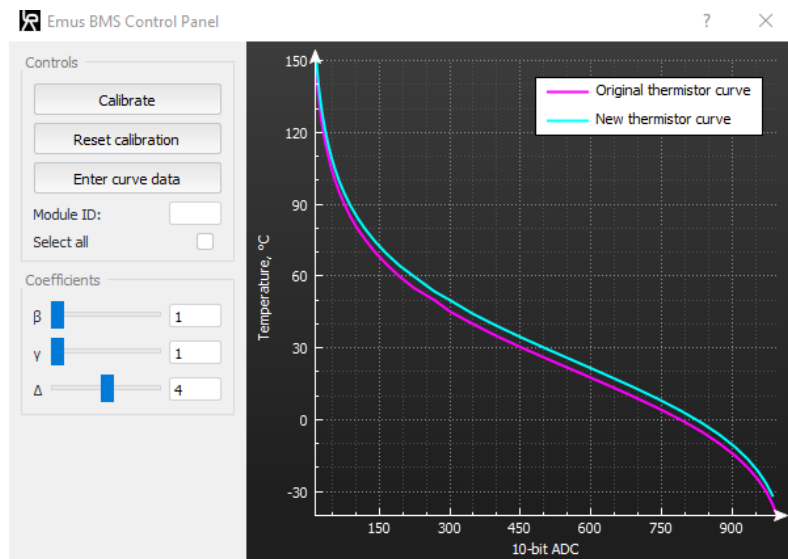

Figure 5-1 External temperature sensor calibration window
- Click on "Calibrate External Temperature ..." button. A window showed in Figure 5-1 should appear;